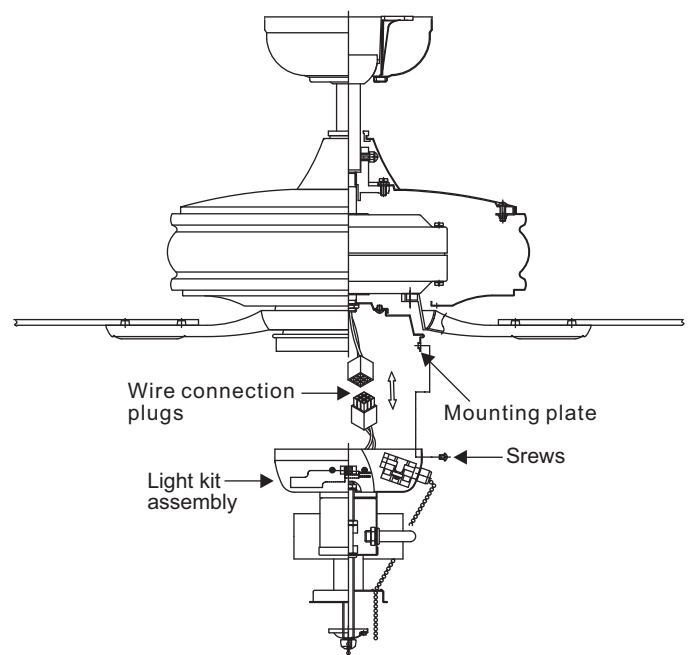

Figure 15
Step 1. While holding the light kit assembly under the fan, snap together the wire connection plugs. (Fig. 15)
Step 2. Carefully push all wires back into the mounting plate. Install the light kit assembly onto the mounting plate with the mounting screws provided. Be sure to tighten all screws. (Fig. 15)